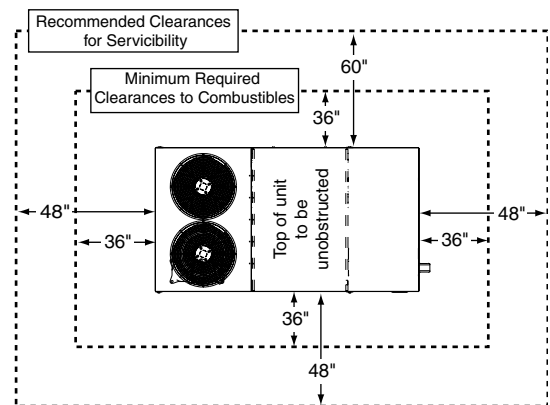

Figure 5. Unit Clearance Requirements
R6GP units are certified as combination heating and cooling equipment for outdoor installation only. Figure 5 \(page 9\) displays the minimum clearances to combustible materials for both Downflow and Horizontal discharge.
- Clearances must be in accordance with those shown in Figure 5.